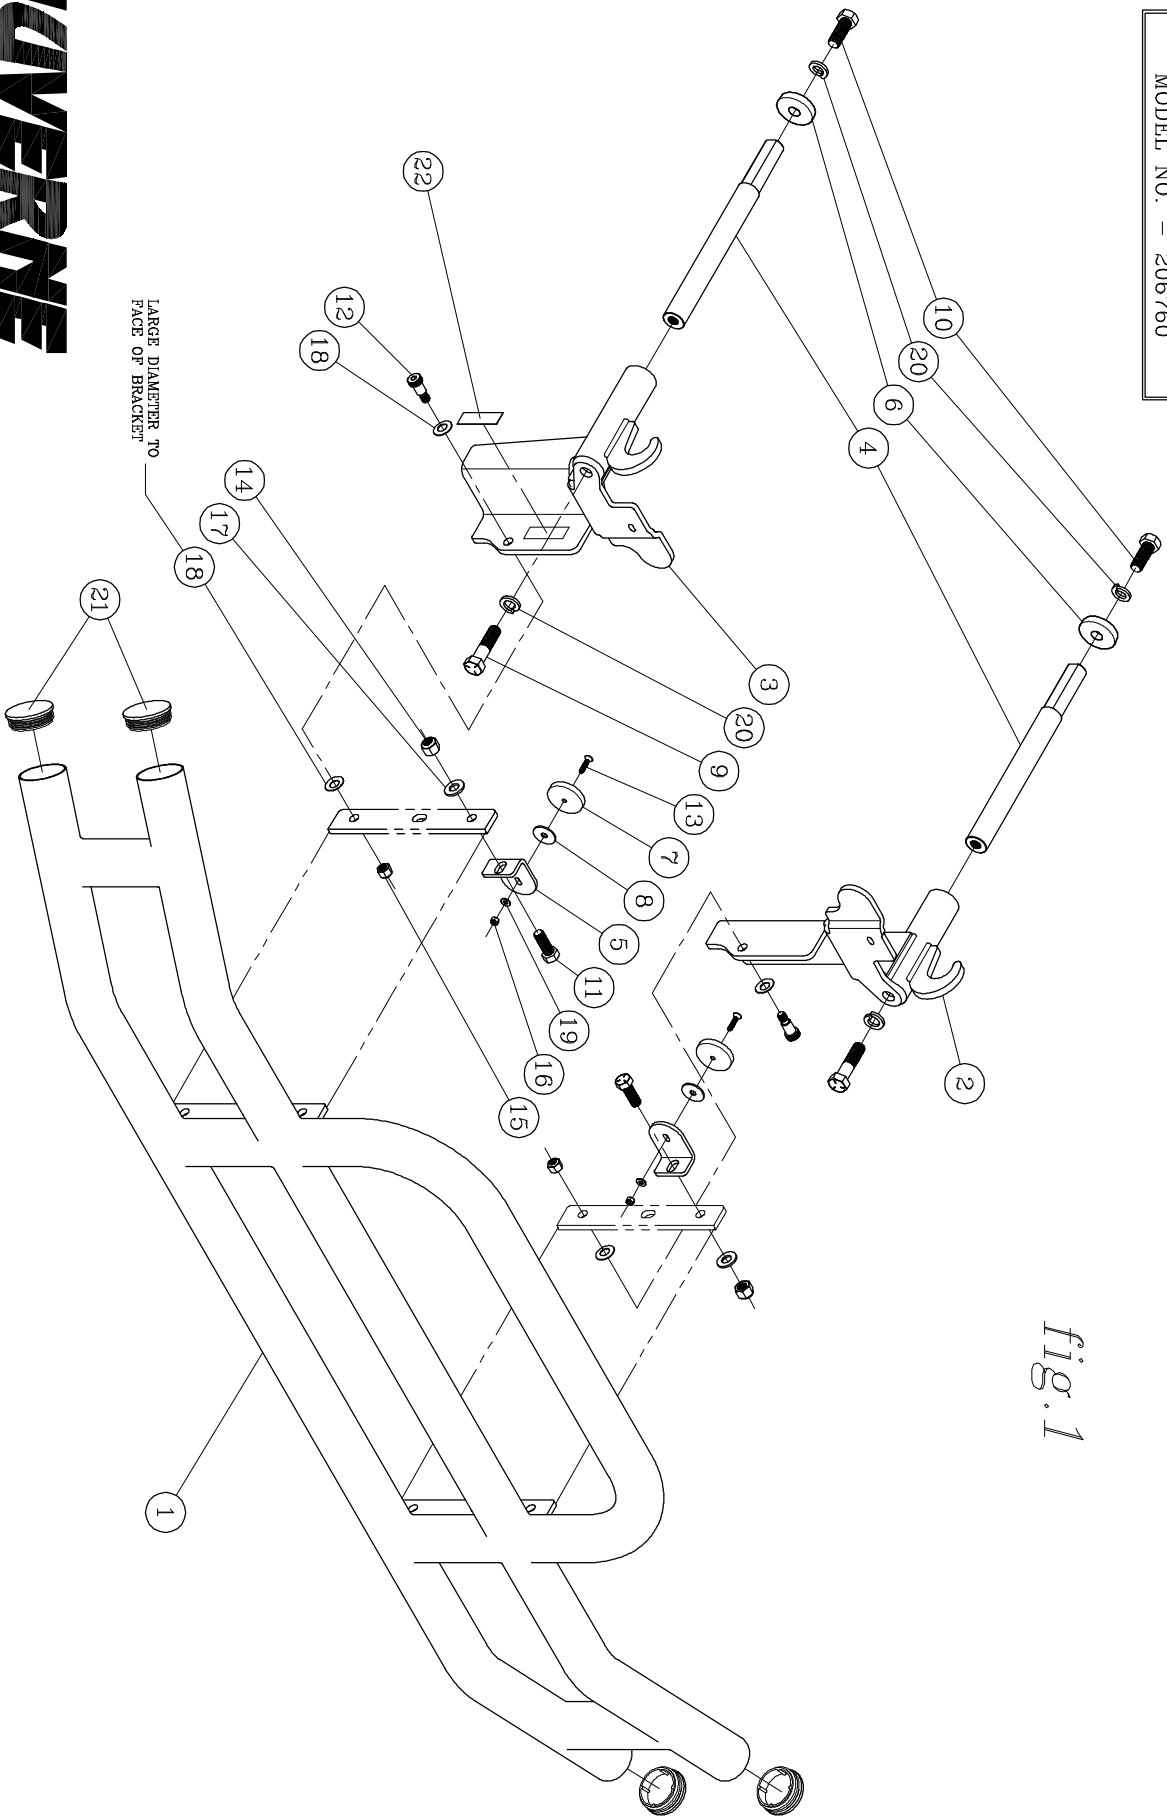

fig. 1
5. USING THE 5/8"-11 X 1-3/4" BOLTS (ITEM #11), AND 5/8"-11 NYLOCK NUTS (ITEM #14), AND 5/8" FLAT WASHER (ITEM #17), ATTACH MAGNET BRACKET ASSEMBLIES (ITEMS #5, #7, #8, #13, #16, & 19) TO THE MOUNTING BARS OF THE GRILLE GUARD, AS SHOWN IN *fig 1*.